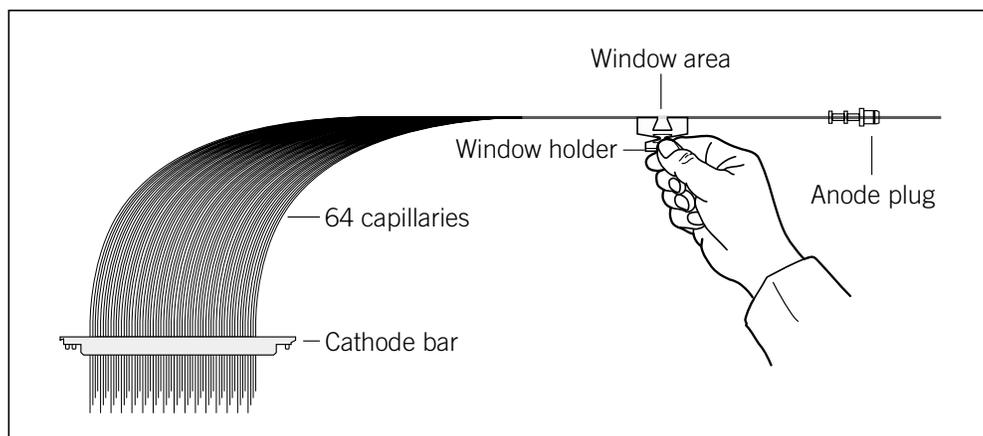

Figure 19-8. Cleaning the capillary windows.
3. Carefully grasp the capillary array by the window holder with one hand (figure 19-8), and with the other hand, use the wet swab to clean the entire window area (front and back).